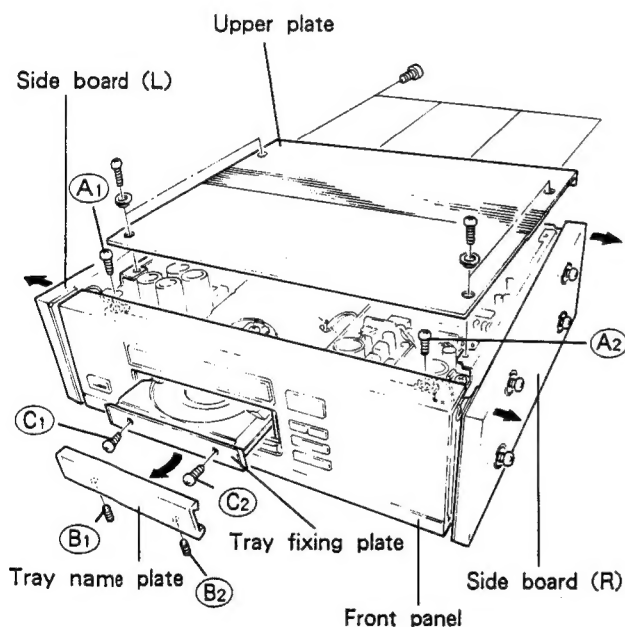

Fig. 2-1.
1. Keep the side boards (L) and (R) apart from the upper plate by loosening the screws ((L, 4) (R, 4)) fixing them. (Be sure not to remove yet since the lead wire for ground is attached to the side sash on the side board (L) and (R).)
3. Remove the screws (A₁) and (A₂) fixing the ground lead wire for side sash. (Refer to Fig. 2-1.)
4. Remove the side boards (L) and (R).